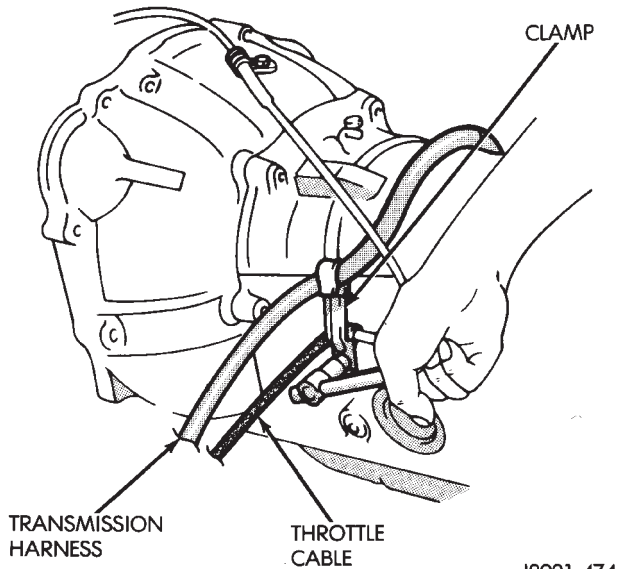

Fig. 83 Typical Harness And Cable Clamp Attachment
- (1) Remove torque converter.
- (2) Remove clamps attaching wire harness and throttle cable (Fig. 83) to transmission.